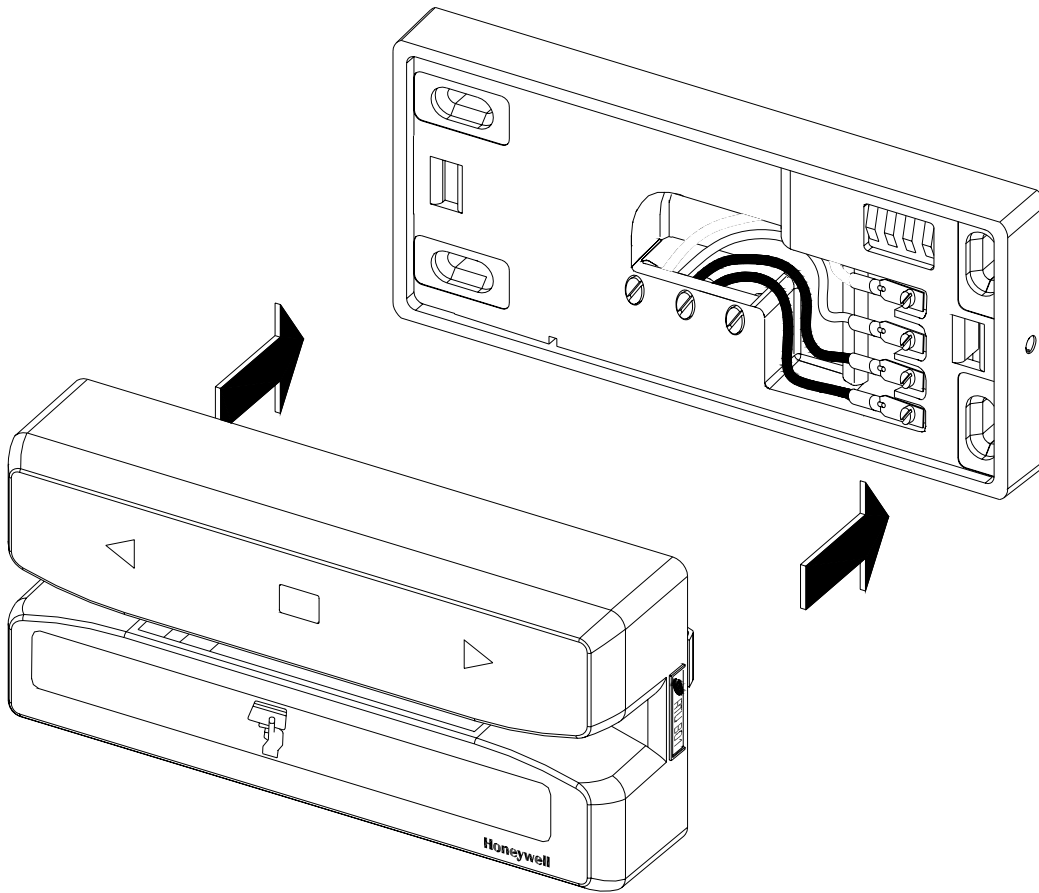

Figure 12. Attaching the Module to the Support Frame
2. Attach each RTU module to the support frame as illustrated in Figure 12.